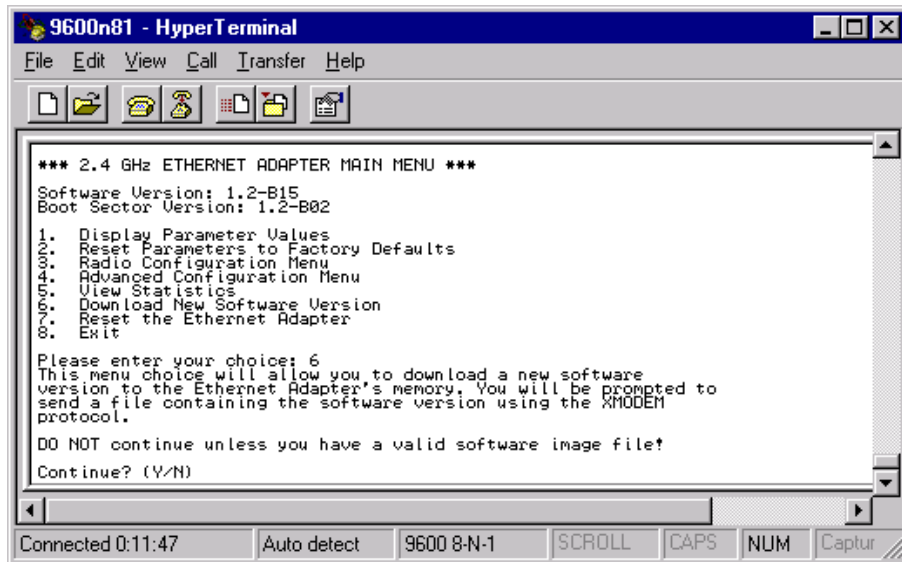

Figure 5-52 Download New Software Information
Step 17. Type **6** (Down load New Software Version) after Please enter your choice: and **Enter** to display the download a new software version information shown in Figure 5-52.